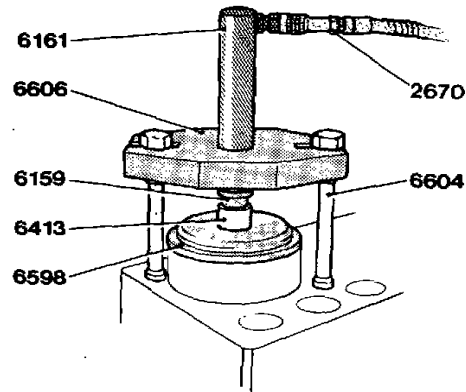

Fig. 67. Pressing down the cylinder liner
8. Place the pressure plate 6598 on the liner collar together with the intermediate piece 6413, see fig. 67. Fit the hydraulic cylinder 6161, yoke 6606, pin 6159, and the bolts 6604. Connect the hydraulic pump 2670 and press down the cylinder liner to the bottom position.